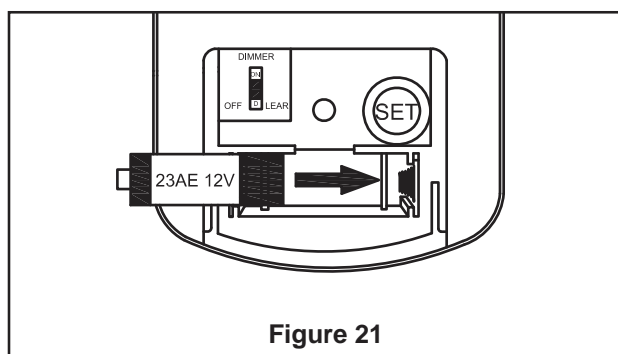

Figure 21
- ☐ 2. To make fan operational, install 23A/12V battery (included) in hand-held remote transmitter, with fan power off. Then follow the remote code setting process. (If not used for long periods of time, remove battery to prevent damage to transmitter). Store the remote away from excessive heat or humidity (Figure 21).